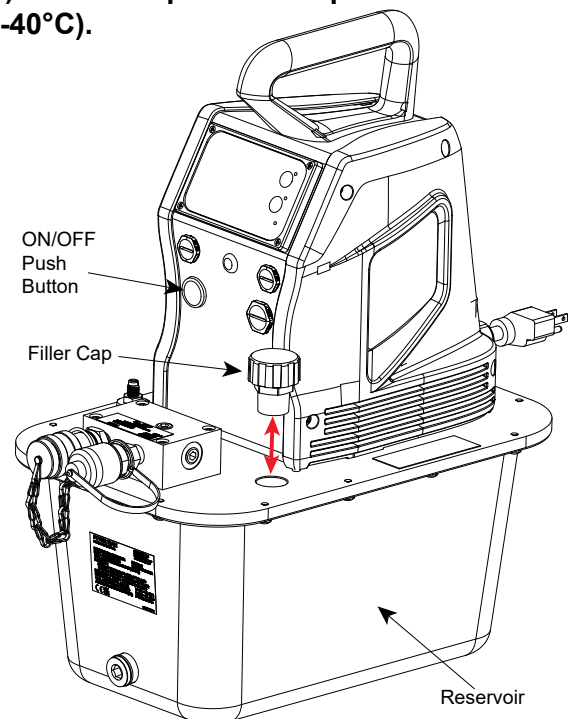

Fig. 11: PE60 Pump Reservoir
- B. Remove the filler cap and insert a clean funnel with a filter (see figure 11).
- C. Make sure no buttons on the hand pendant or on the eSync control panel are pressed, and the pump unit push button switch is in the OFF position (see figure 11).
- **The pump unit can be turned ON or OFF independently using the ON/OFF push button switch (see fig. 11).**